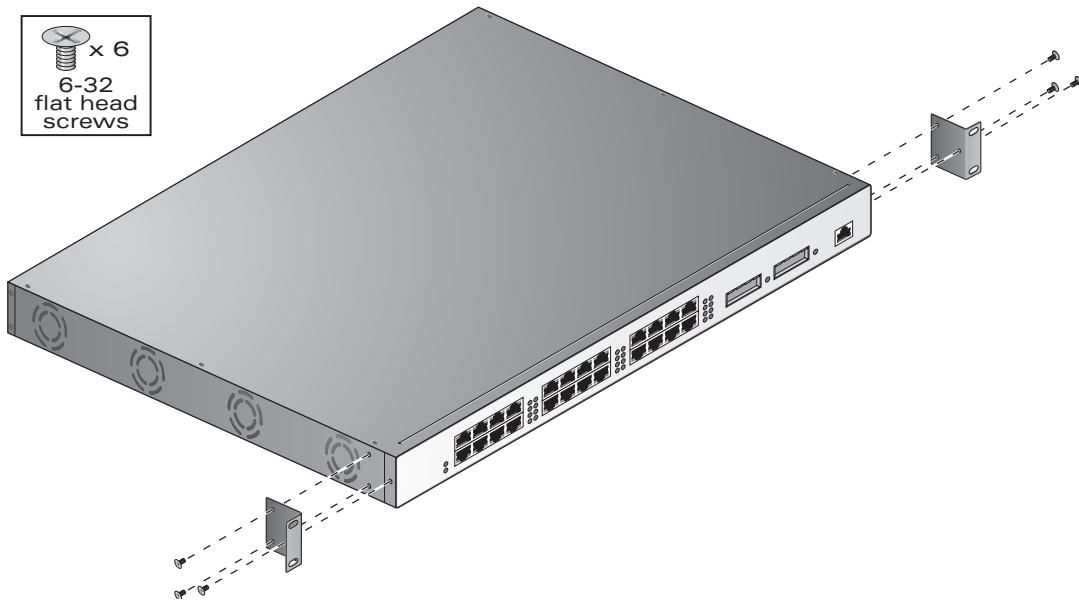

FIGURE 2-2 Attaching the Rack Mounting Brackets
2. Attach the rack mounting brackets to the switch chassis as shown in Figure 2-2.